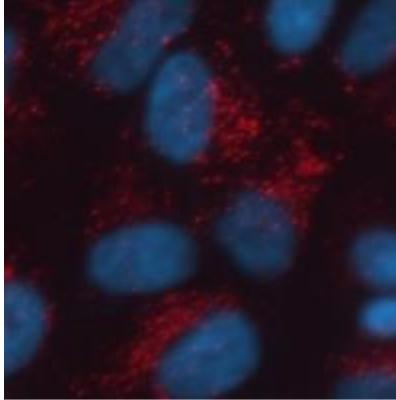

Figure 5. IF of HeLa cells treated for 24 hours with 20 nM  $\alpha$ -synuclein PFF-633 Blue: Hoechst; red: PFF-633.
9. Visualize slides on fluorescence microscope using a 10X or 20X objective lens. An example image of fluorescently-labelled  $\alpha$ -synuclein PFFs in HeLa cells is shown in Figure 5.